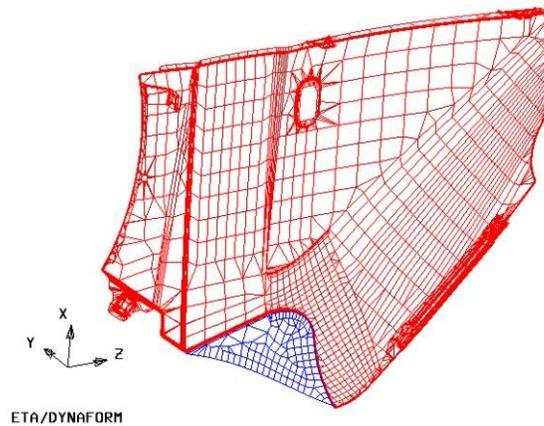

Fig. 6.1.21 An illustration of Outer Smooth/Roller using Local option
2. Once the middle mouse button is clicked, a smoother, virtual boundary will be highlighted over the original boundary. If the result is acceptable, click on the FILL BOUNDARY button to fill the gap. eta/DYNAFORM will create a new part with the given name to include the filled mesh and surfaces. In addition, this part will be automatically assigned as DIE. Fig. 6.1.21 illustrates the result of a typical roller operation using the LOCAL option.